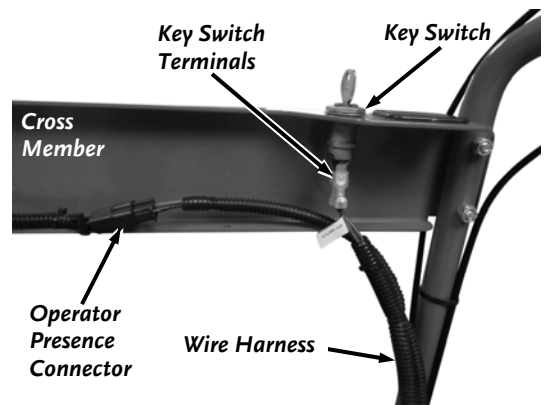

Figure 11
11. Connect the Operator Presence Connector and two Key Switch Terminals behind the Cross Member (**Figure 11**).